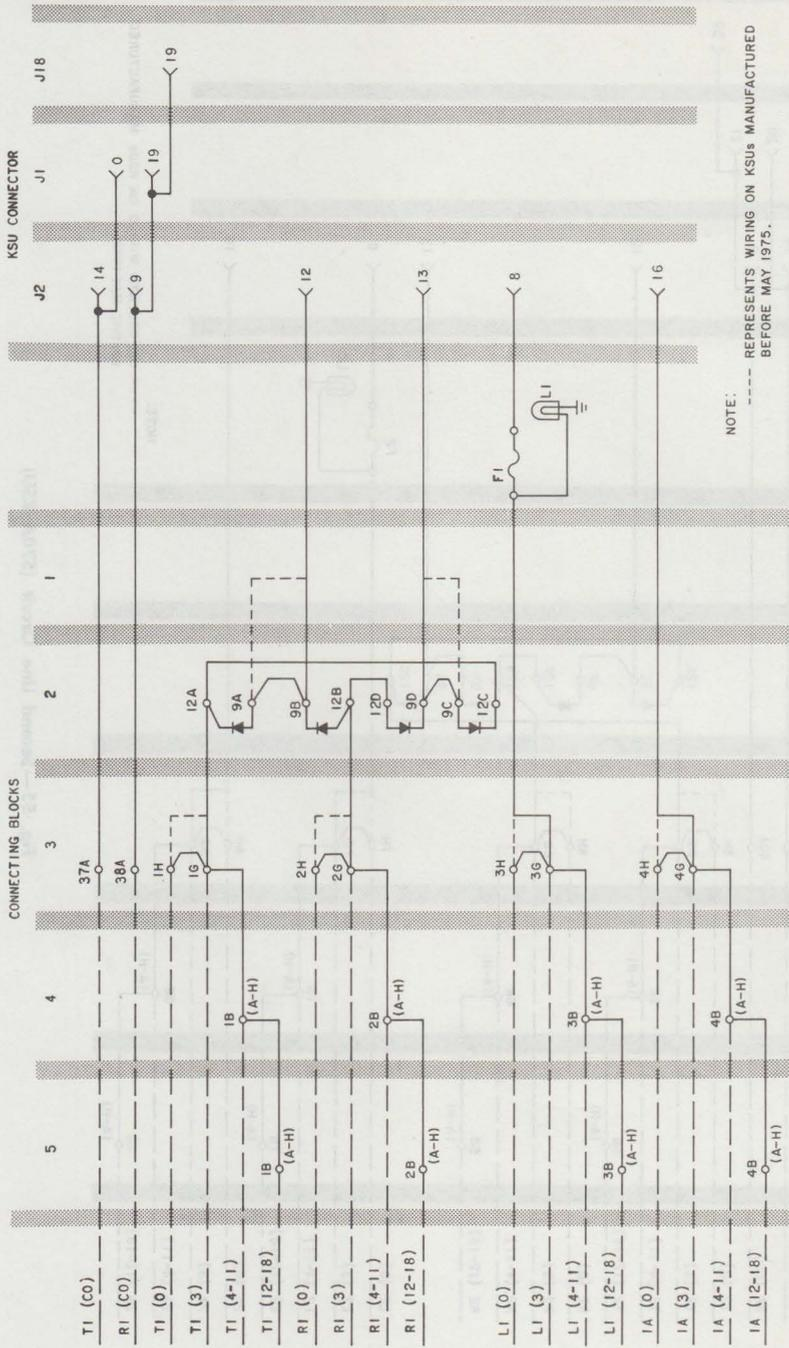

Fig. 54—First Line Circuit (570A KSU)
**6.05** Tables Q, R, S, and Fig. 54 through 67 are provided as an aid for maintenance of the CO line circuits.